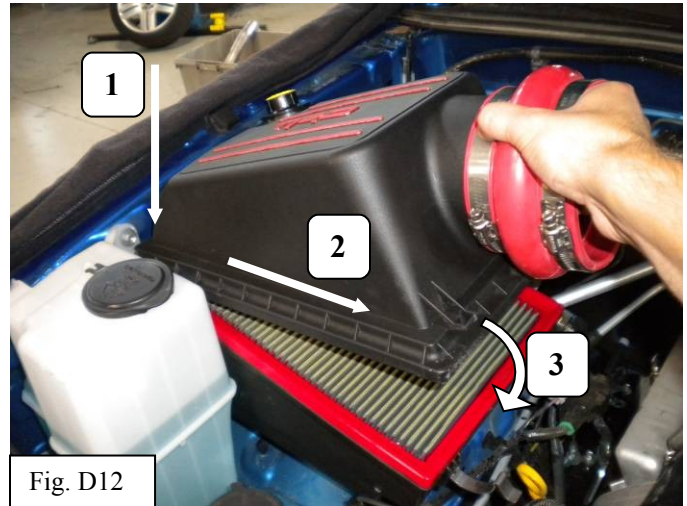

Fig. D12
11. Install the upper air box by lowering the hinge side into place first. (Fig. D12)